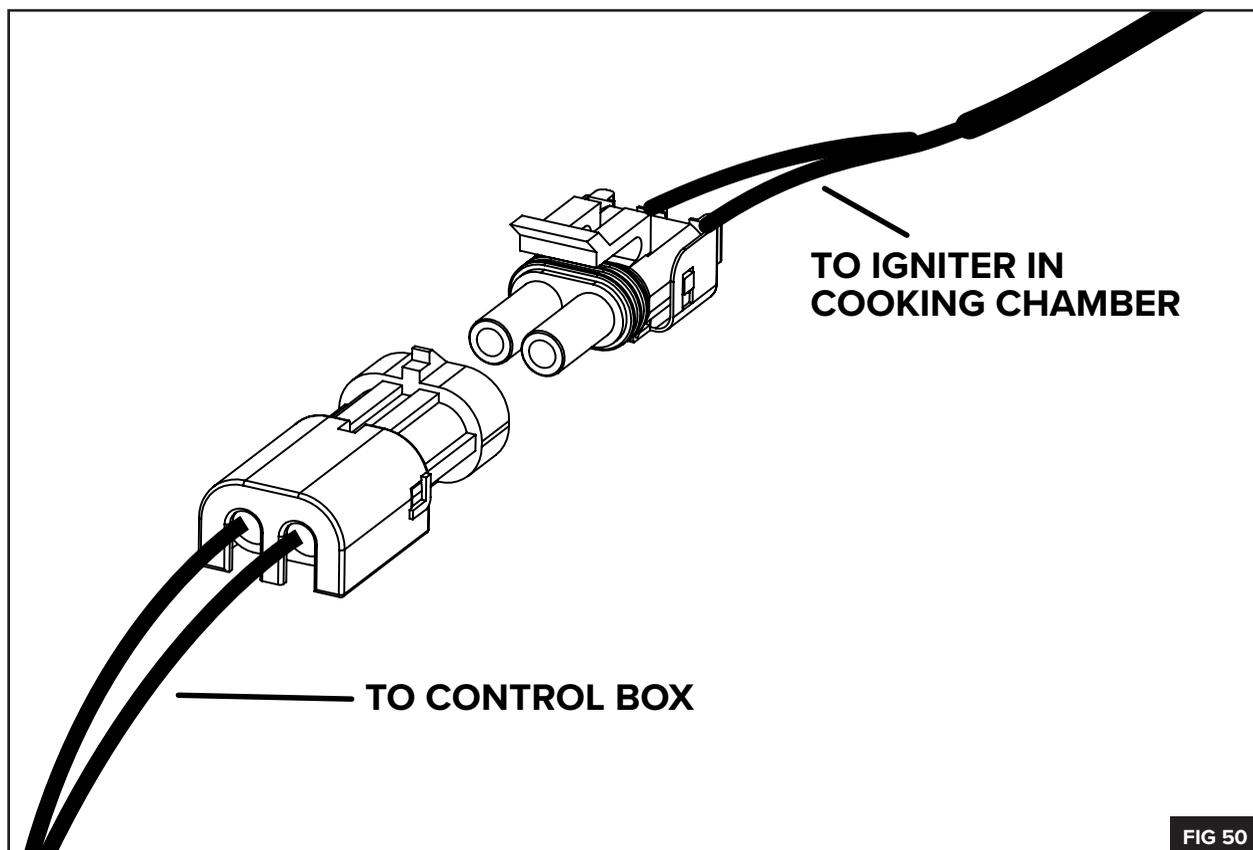

FIG 50
3. Unplug the igniter's weather tight connection (**FIG 50**) and push wires back into the hopper cavity.